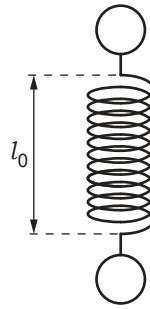

Fig. 3.1
- 3 Fig. 3.1 is a full-sized diagram of a spring.
- (a) Measure and record the unstretched length l_0 of the spring shown in Fig. 3.1.